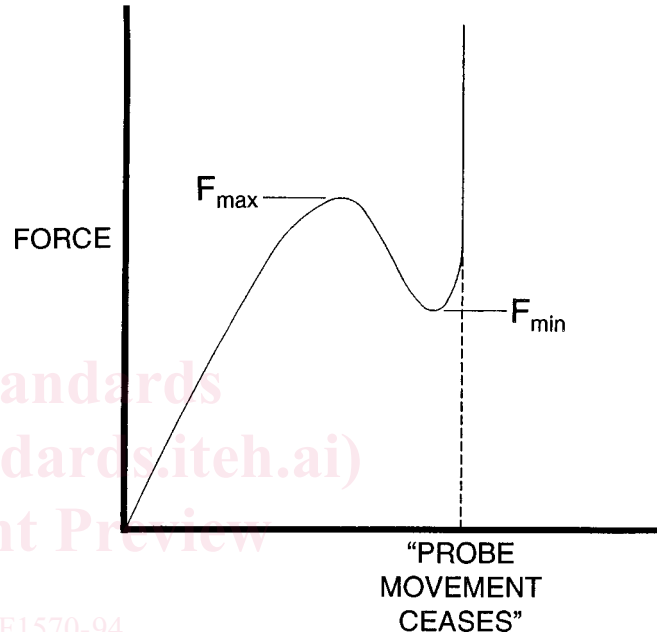

FIG. 1 Typical Tactile Force-Displacement Curve
2.1.4  $F_{max}$  (*actuation force*)—maximum force measured prior to or including point at which contact closure ( $F_{min}$ ) is achieved (see Fig. 1 and Fig. 2).
2.1.6.1 *Discussion*—Usually expressed as a line graph (see Fig. 1 and Fig. 2).